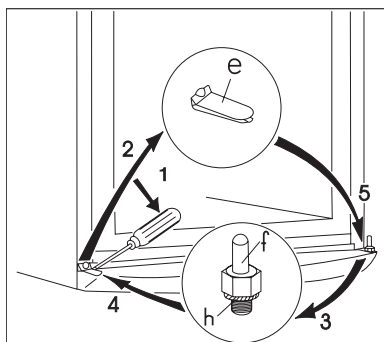

Fig. 4.
- Lift out the insert for the lower covering grid (e) using a screw driver (Fig. 4).
- Unscrew the bottom door retaining pin for the freezer door (h, f) and then screw in on the other side. Don't forget the spacer (h) (Fig. 4).
- Place the freezer door on the lower door retaining pin (f) (Fig. 4).